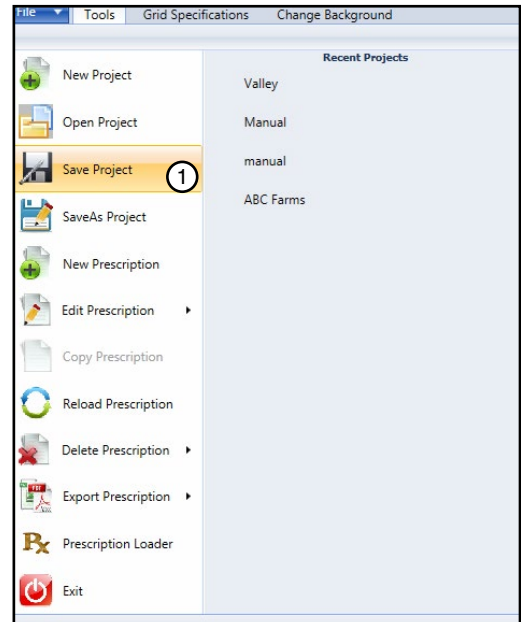

Figure 37-1 1. Save Project
1. Select **Save Project** in the **File** VRI drop-down menu. See Figure 37-1.